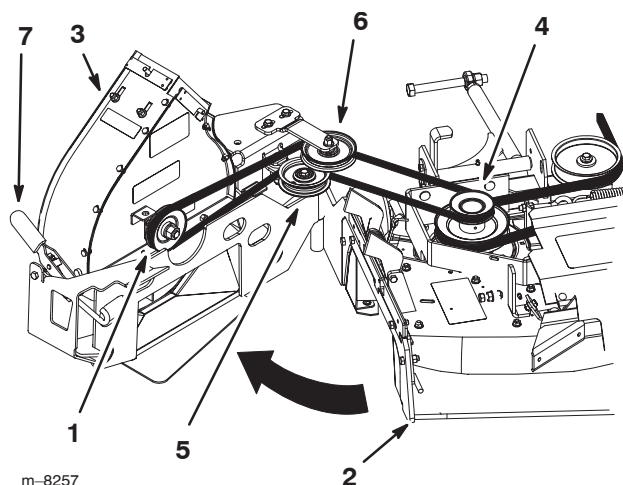

Figure 37
- Remove the bagger belt from the top pulley of the mower pulley assembly (Fig. 37).
- Remove the bagger belt from the spring-loaded idler pulley and the fixed idler pulley (Fig. 37).
9. Remove the bagger belt from the blower assembly pulley (Fig. 37).